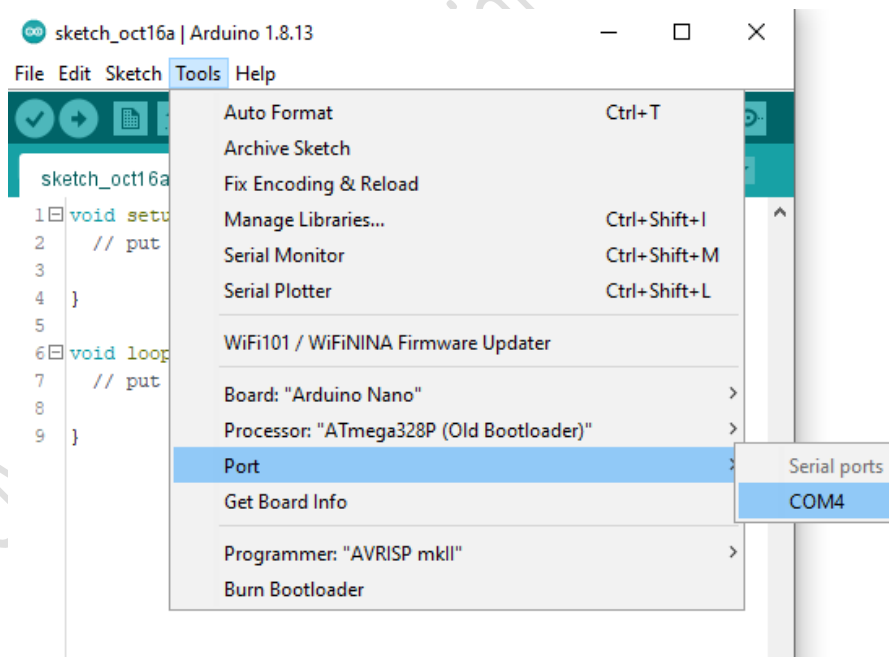

Fig.2.17: Selecting the serial port
4. Choose the serial port under Tools>Serial Port>COM 4 (COM # depending on what COM port is free during setup) (Fig.2.17).